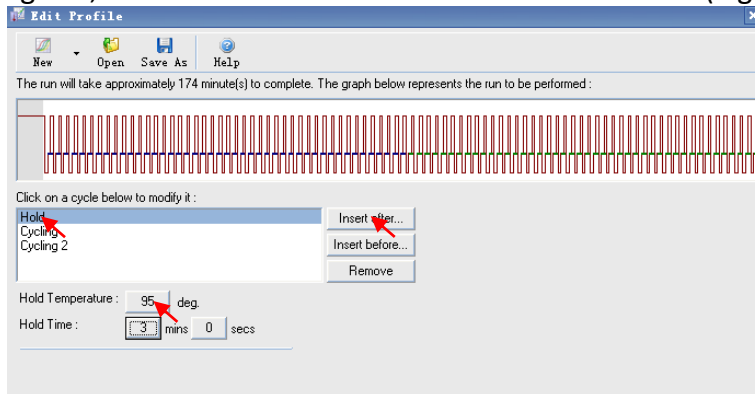

Figure 6
a. For the hold stage, select “Hold”, click on “Hold Temperature” to set the temperature as 95 degrees, click on “Hold Time” to set the time as 3 mins (Figure 6).